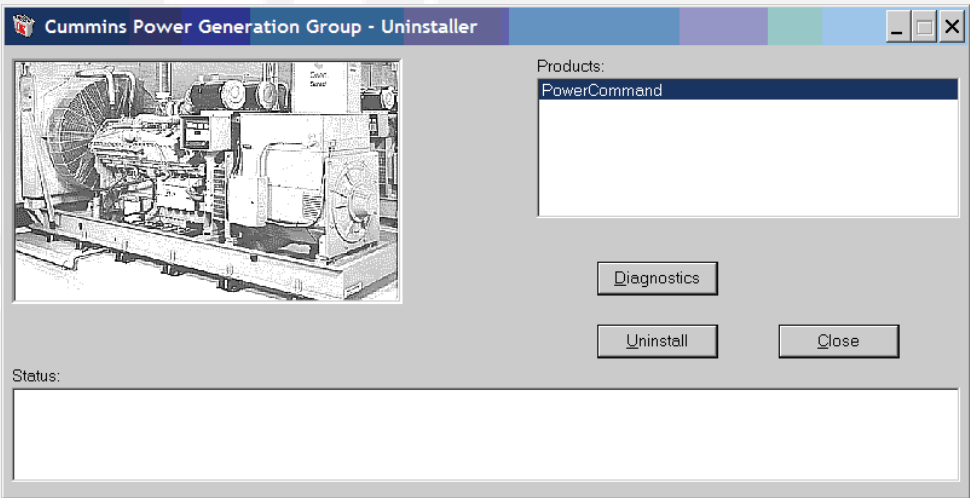

FIGURE A-8. CPG GROUP UNINSTALLER
16. When the *CPG Uninstaller* window is displayed, select PowerCommand from the *Products* list, and then click on the **Uninstall** button. Figure A-8.